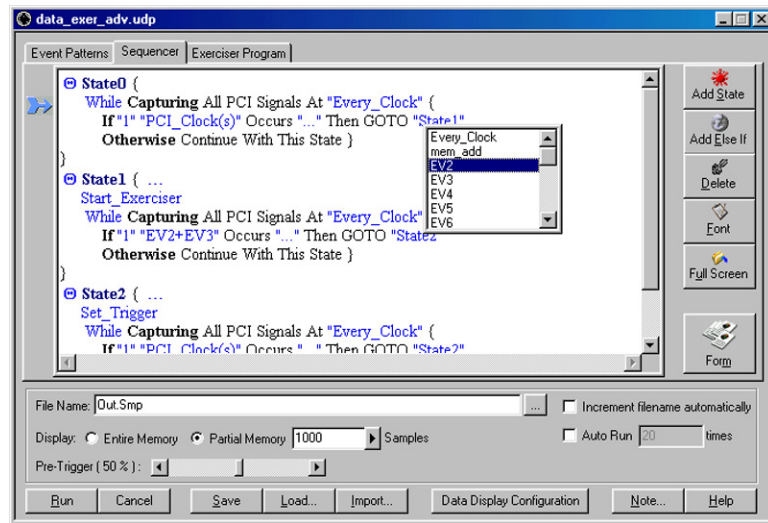

Figure 70 Changing the Programmable Parameters
1. Position the display cursor over the parameter and double click the left mouse button to open a list box with available choices for that parameter. See Figure 70.